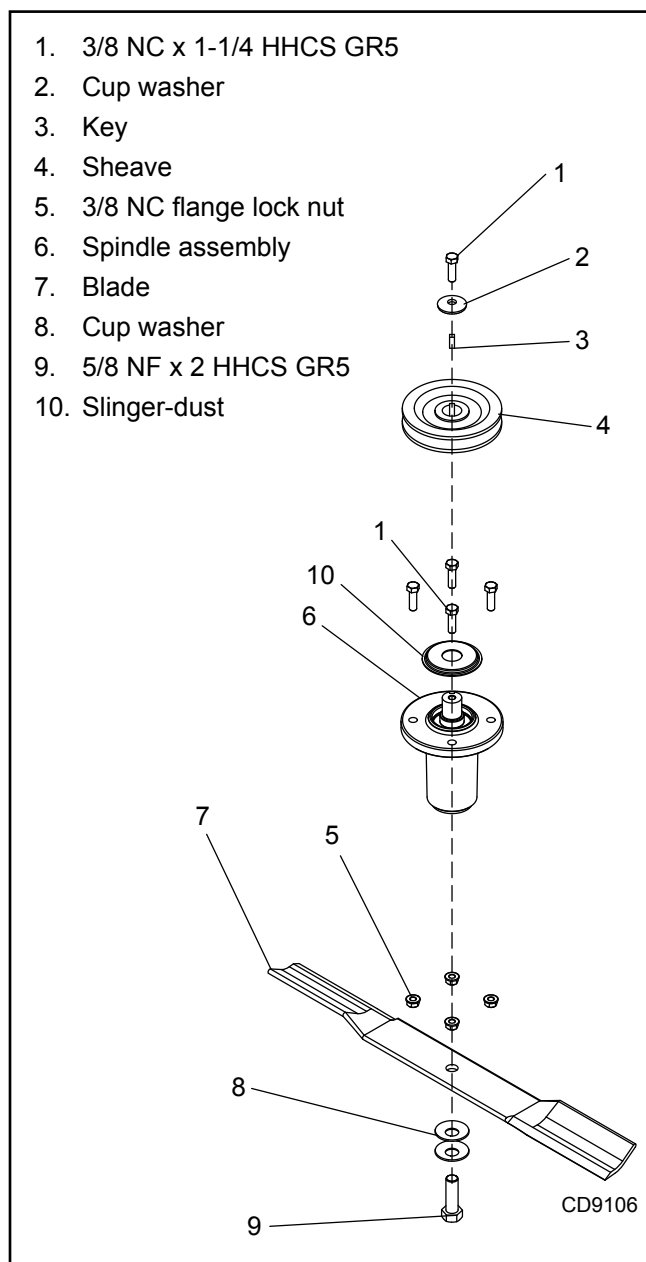

Figure 15. Blade Spindle Assembly
4. Remove bolt (1) and cup washer (2) holding sheave. Remove sheave (4) and square key (3) from spindle shaft.
5. Remove nuts (6) and bolts (9) that secure spindle to mower. (See Figure 15.)